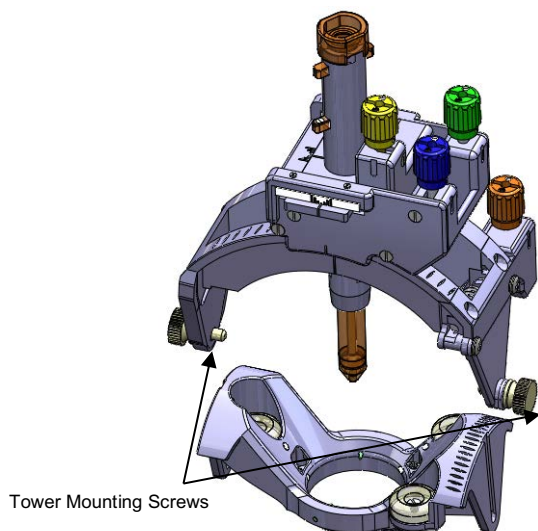

Figure 5a
12. Mount the Tower onto the Base by first loosening then grasping the Tower Mounting Screws. Grasp the Tower by the top rectangular gear housing. Align each screw with the mating grooves on the Base. **See Figure 5a.** Slide the Tower into place and ensure screws seat into the mounting holes on the Base.